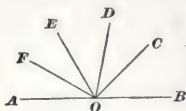

FIG. 14.
**33.** From the foregoing it will be evident that if a number of straight lines on the same side of a given straight line meet at the same point, the sum of all the angles formed is equal to two right angles, or  $180^\circ$ . Thus, in Fig. 14, angles  $COB + DOC + EOD + FOE + AOF = 2$  right angles, or  $180^\circ$ .